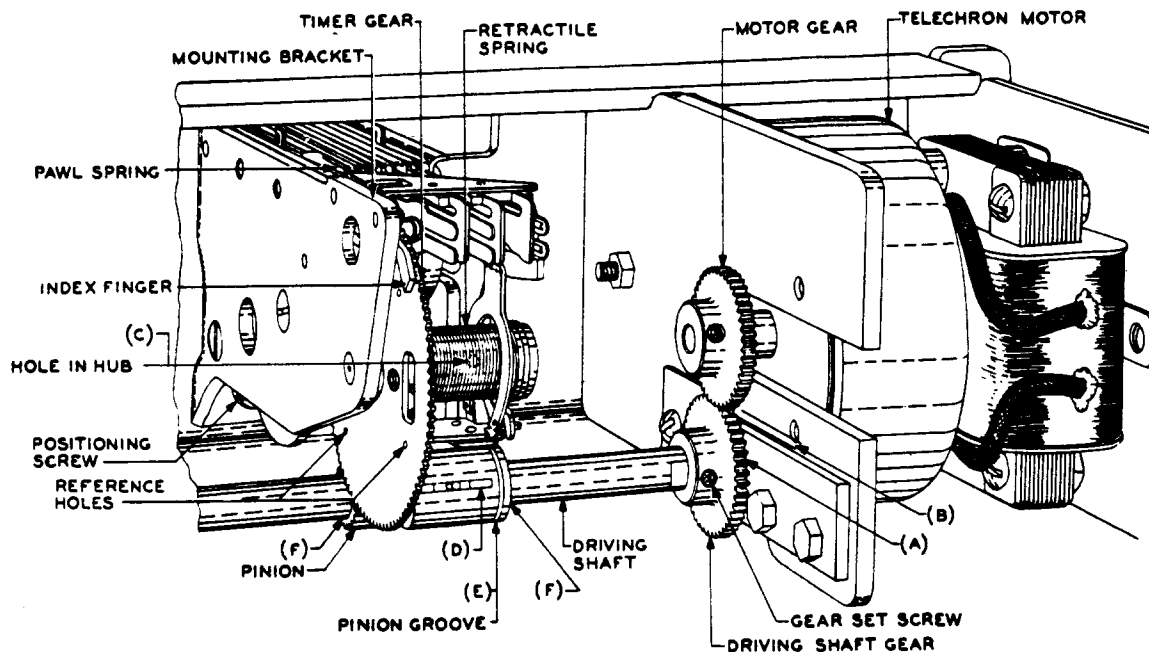

Fig. 2 - Timer and Associated Drive Assembly
- (1) Two discharges distributed evenly around the circumference of the driving shaft at each support bearing (one discharge on each side of the support) and two discharges at the left and right thrust bearings.
- (2) Fig. 2(D) - One discharge to the slot in the pinion.
- (3) Fig. 2(E) - One discharge to the groove in the pinion.
- (4) Fig. 2(F) - Two discharges distributed evenly around the circumference of the driving shaft at each end of the pinion.
- (5) Fig. 2(C) - Three discharges to the hole in the hub of the gear shaft.
2.04 End Play of Driving Shaft: Fig. 2(A) - With the driving shaft motor stopped, the end play of the shaft shall be
(b) Fig. 2(B) - The teeth of the motor and driving shaft gears shall engage for their full width, at one point in the position of the gears, when they are moved back and forth in opposite directions to the extreme limits of motor and driving shaft end play. In no case, however, shall the engagement be less than 1/2 the width of the gear.